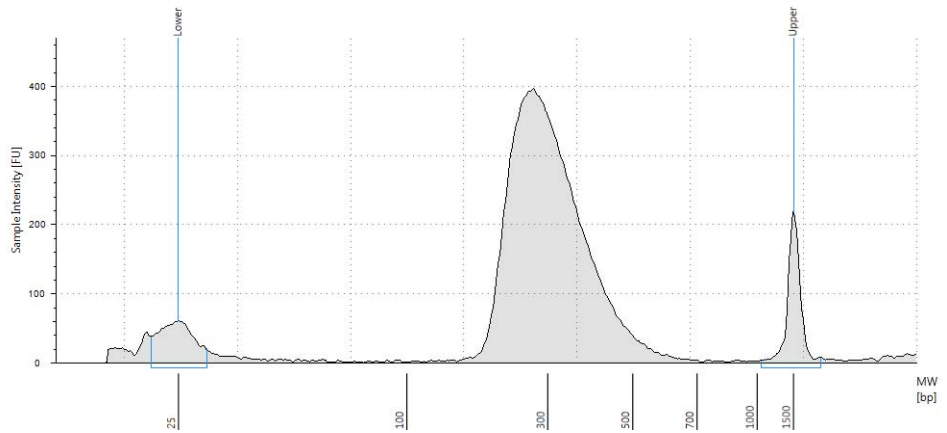

Figure 14 Analysis of purified indexed DNA amplicons using the High Sensitivity D1000 ScreenTape.
- 5 For each sample, measure the concentration of the library (ng/µL) by integrating under the peak at approximately 200 to 700 bp. A sample electropherogram is shown in Figure 14.